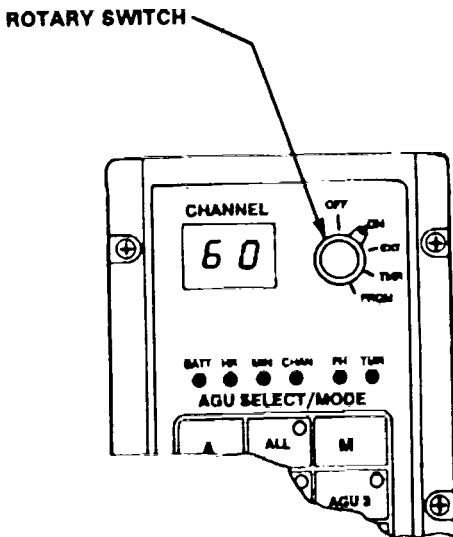

Figure 2-3. T/C Rotary Switch
- a. Rotary Switch. (See Figure 2-3.)
- (1) OFF Position. Turns off the T/C and allows the T/C battery to be charged.
- (2) ON Position. Normal position for most airborne operations. In this mode, the T/ transmitter transmits after self-test.
- (3) EXT (External) Position Enables extern turn control switches for airborne operations. If both external switches are de- pressed, the parachute will be command to 100% brakes.
- (4) TMR (Timer) Position. Disables transmission by the T/C transmitter until the pre- programmed timer times out. Turn on delays may be preprogrammed from 1 minute to 99 hours, provided that there is sufficient battery capacity.
- (5) PROG (Program) Position. In this mode, the T/C may be preprogrammed.